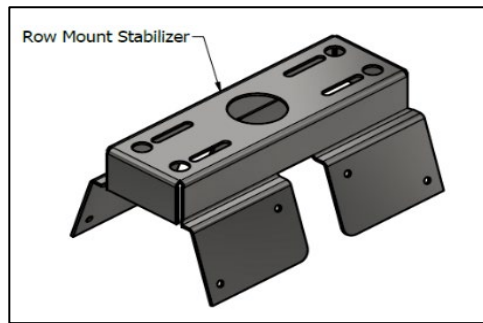

Figure 5
- C. Grip Line or Black power supply wire firmly and push the wire into the port marked with letter "B" or black circle on the connector as shown in Figure 5.
- D. Grip Neutral or White power supply wire firmly and push the wire into the port marked with letter "W" or white circle on the connector as shown in Figure 5.
- For connecting row mount fixtures, use the bracket shown in Figure 5.